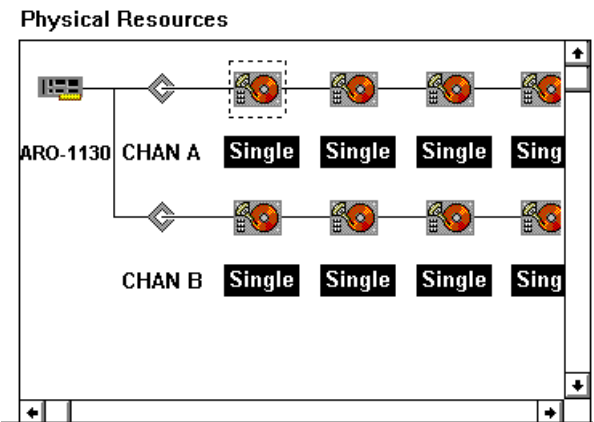

Figure 8-3. Selecting Array Members
- 3 Select disks for the new array by clicking disk icons  that have the word **Single** beneath them, as shown in Figure 8-3.